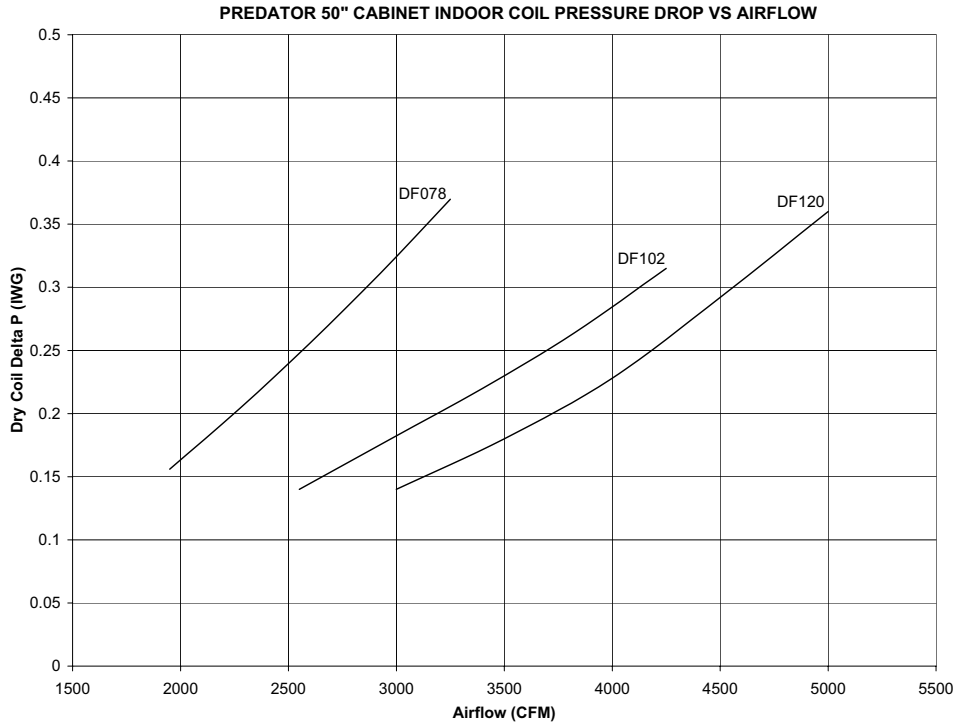

FIGURE 26 - DRY COIL DELTA P 50" CABINET
4. The CFM through the unit can be determined from the pressure drop indicated by the manometer by referring to Figure 26. In order to obtain an accurate measurement, be certain that the air filters are clean.